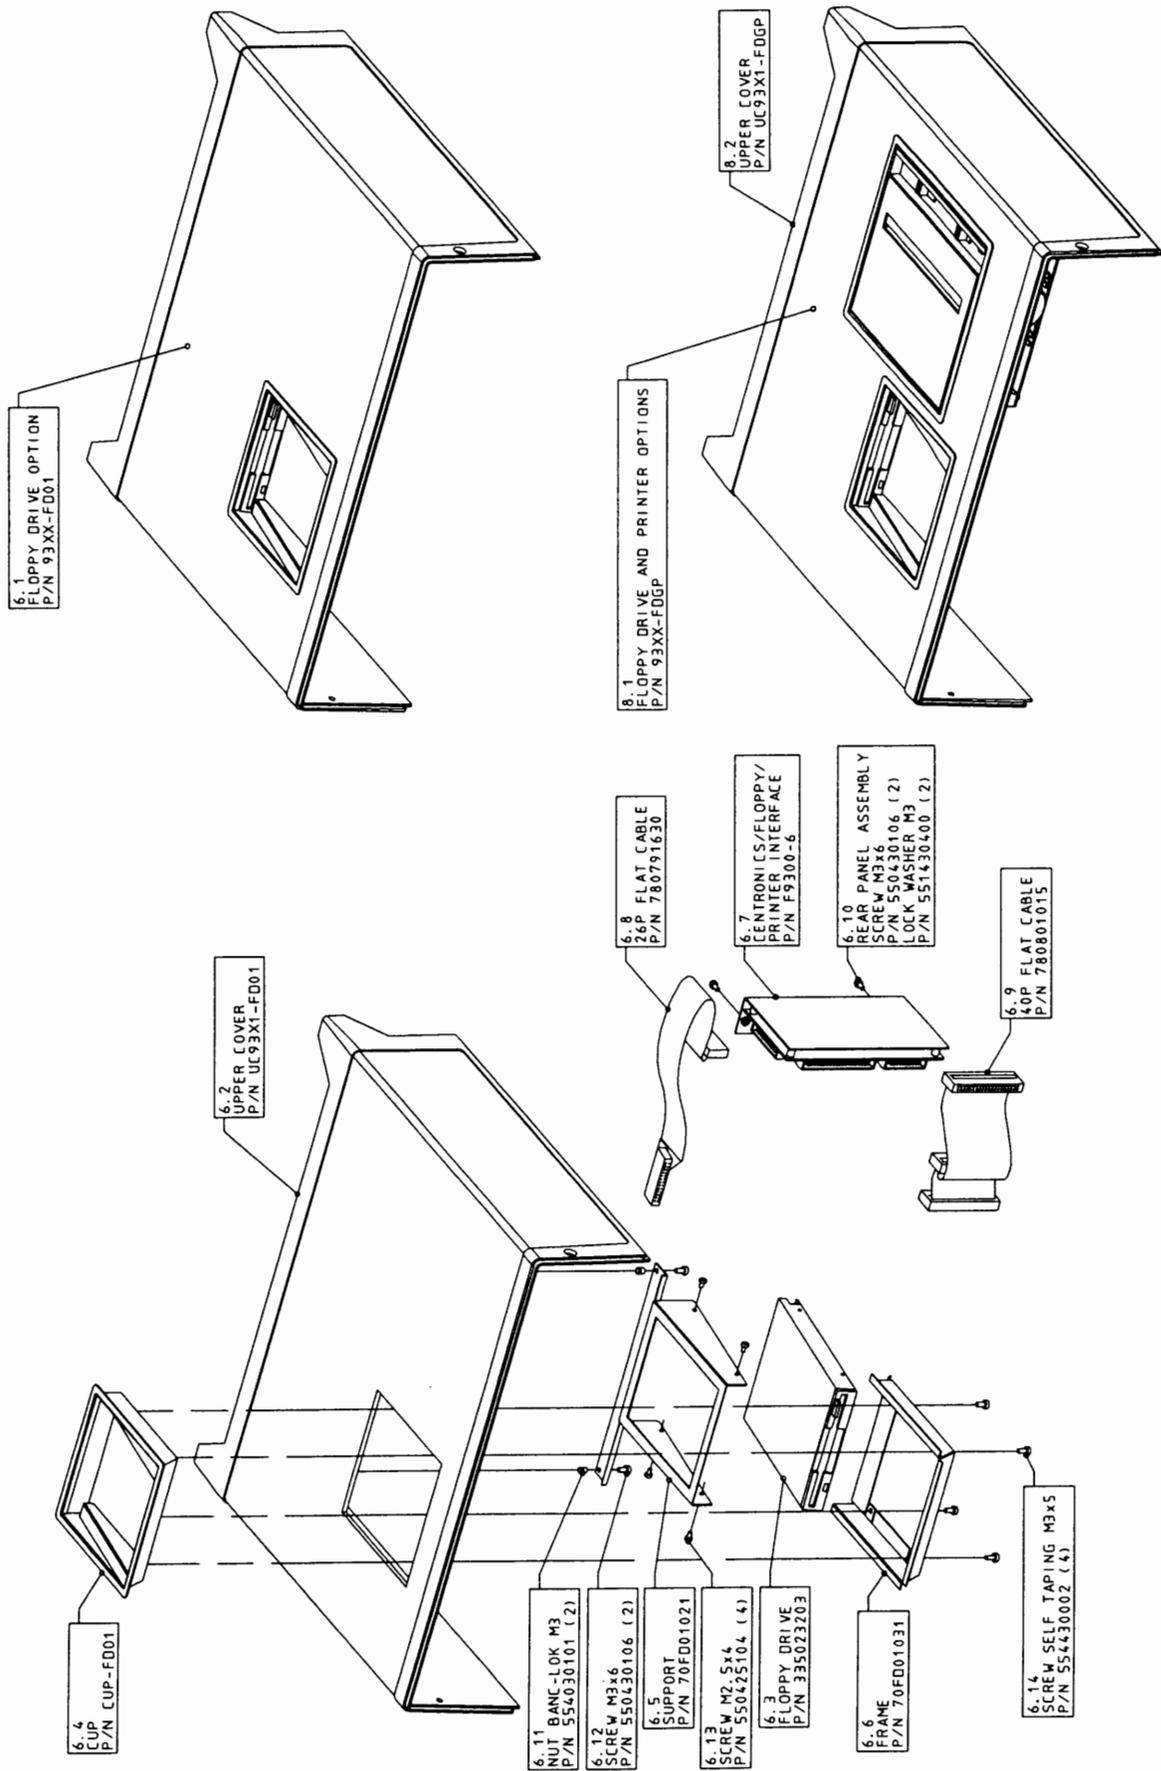

Figure 7.6 : 9314A/M/L Floppy Option Assembly
- Disconnect the flat ribbon cable from the F9300-6 interface (see figure 7.6).
- Disconnect the flat cable from the F9300-4 GPIB/RS232 board (see figure 7.6 or 7.7).